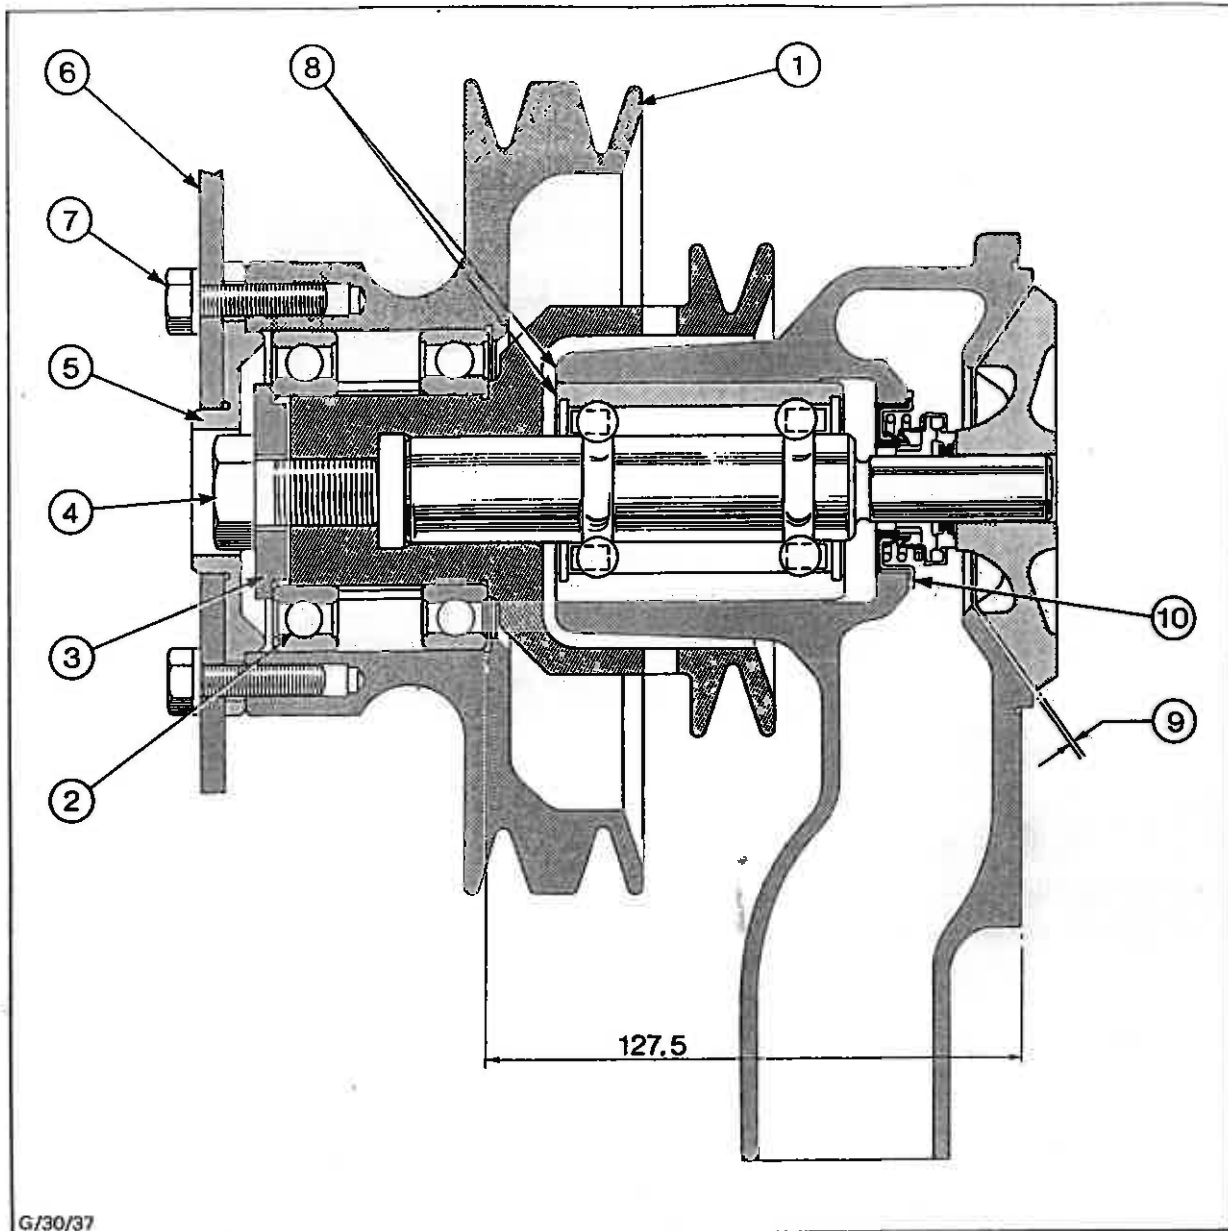

Fig. 4 - Water Pump Assembly for 'Low Loss' Fan Drive System
In place of the standard water pump a 'low loss' fan drive system can be fitted. This is basically the standard water pump fitted with a single sheave drive pulley having an extended hub. On this extended hub, an additional fan pulley assembly is fitted with its own bearings - see Fig. 4. This arrangement enables the fan to be driven at a lower speed than the water pump.
2. Detach fan and bearing retainer outer plate - refer to Fig. 4.
Slide fan pulley assembly onto the water pump pulley hub and secure with the bearing retainer inner plate and bolt - see Fig. 4.
6. On 'Low Loss' fan drive systems, fit the pump drive belt and grip it while tightening the fan pulley retaining bolt to the specified torque value. Fit the bearing retainer outer plate and fan and secure with the six bolts - see Fig. 4. Fit fan drive belt and grip it while tightening fan securing bolts to specified torque value.